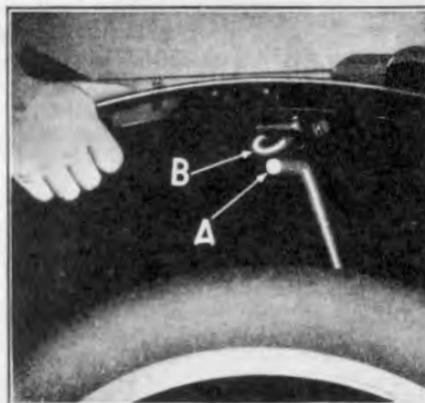

Fig. 108
- (a) Insert fender iron (See "A" Fig. 108) through fender eye bolt "B".